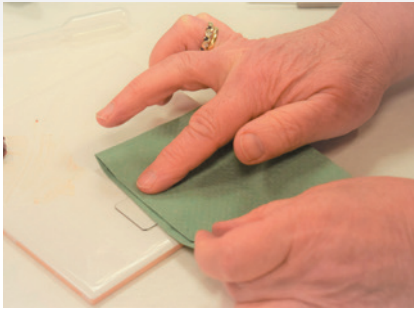

Figure 4 - Remove excess stain.
- 7) Fold a paper towel 2 or 3 times and place over the coverslip. Apply gentle pressure. This helps to spread the cells into a single layer and removes excess stain (Figure 4).